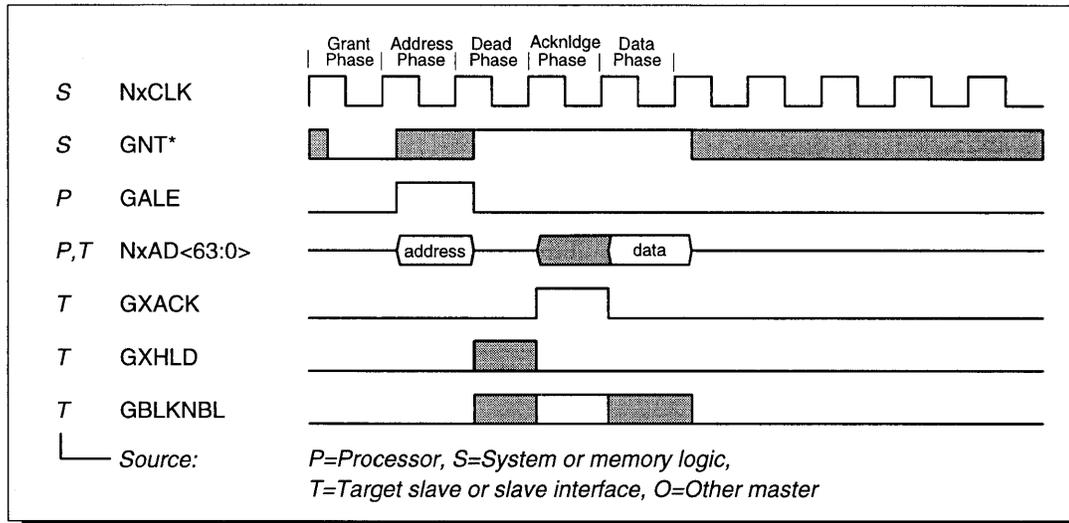
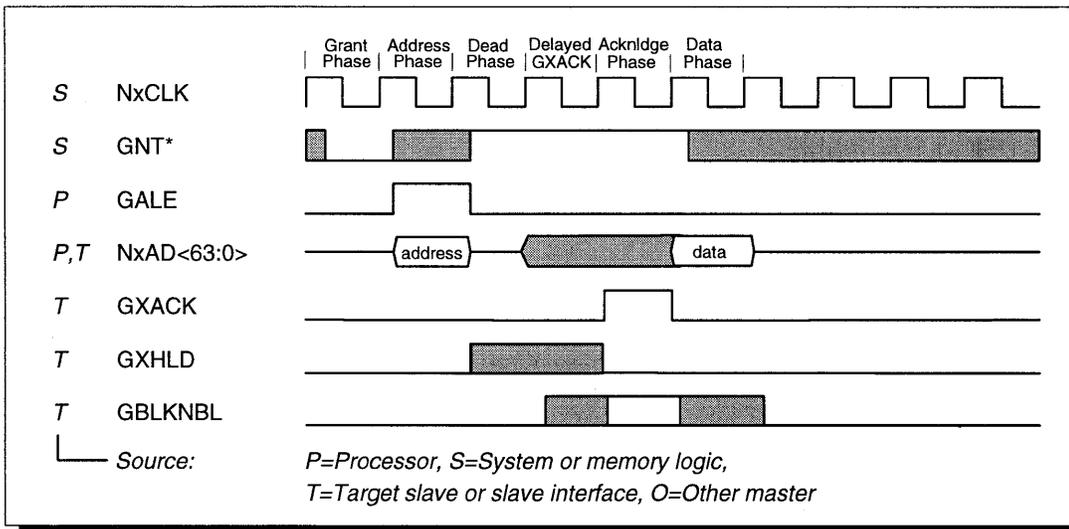

Figure 33 Fastest NexBus5 Single-Word Read
Figure 34 Fast NexBus5 Single-Word Read with a delayed GXACK
Figure 33 shows the fastest possible NexBus5 single-qword read. The notation regarding *Source* indicates the logic that originated the signal as an output. In this figure and others to follow, the source of group signals (such as GXACK) is shown with additional symbols indicating the device or logic that output the originally activating signal. For example, the source of the GXACK signal is shown as "S,P", which means that system logic (S) generated GXACK but that the processor (P) caused this by generating XACK\*. In some timing diagrams later in this section, bus signals take on different names as outputs cross buses through transceivers or are ORed in group-signal logic; in these cases, the source of the signals is shown with additional symbols indicating the logic that originally output the activating signals.
Figure 33 shows when GBLKNBL may be asserted. If appropriate, the slave must assert GBLKNBL no later than it asserts XACK\*, and it must keep GBLKNBL asserted until it negates XACK\*. It must negate GBLKNBL at or before it stops placing data on the bus. Although not shown, OWNABL must also be valid (either asserted or negated) whenever GXACK is asserted. In the example shown in Figure 34, the slave asserts GXACK at the latest allowable time, thereby effectively inserting one wait state. The slave may or may not drive the NxAD<63:0> signals during the wait states. The processor will not drive them during the data phase of a read operation.